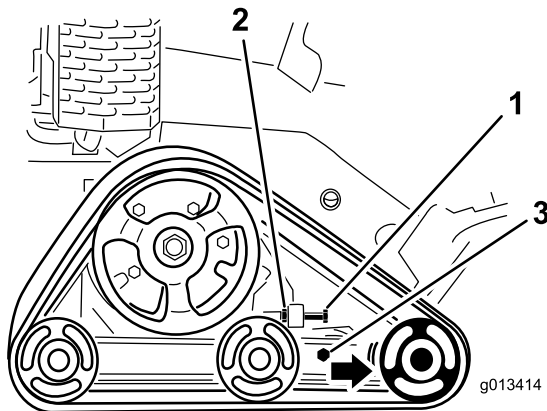

Figure 45
3. Loosen the jam nut on the track tensioning bolt and the clamp bolts on the tension arm (Figure 45).
4. Torque the tensioning bolt to 24 to 30 ft-lb (32.5 to 40 N-m) to tighten the track (Figure 45).
4. Back out the tensioning bolt and jam nut (Figure 45).
5. Loosen the clamp bolts (Figure 45).